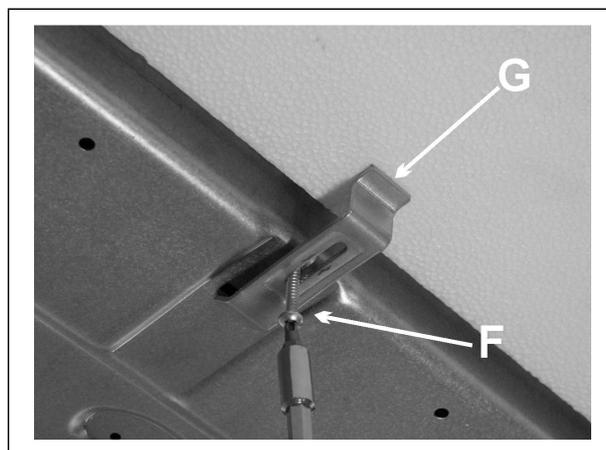

FIG. 6
- Position the hob in the hole in the unit and fasten it in place using the appropriate screws "F" of the fastening hooks "G" (see fig. 6).